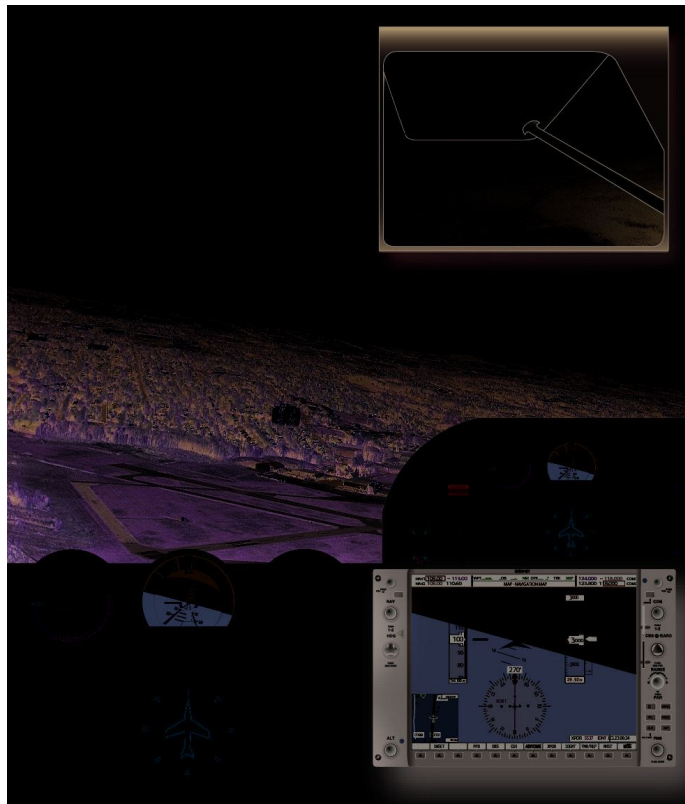

Figure 3-10. *Level turn to the left.*
4. Neutralize the ailerons (along with either power or pitch reduction) for level flight. [Figure 3-10]